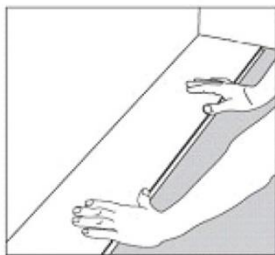

Figure 1
1. Starting from the RIGHT with the tongue facing the wall, carefully place the first board in place. (Figure 1)